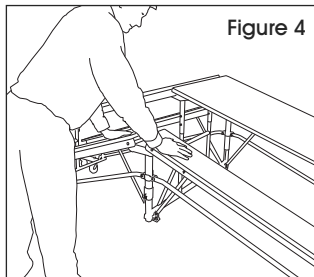

Figure 4
- With hands on top of benches, push down toward floor until the down latch automatically locks into place. Table is ready for use. (See Figure 4)